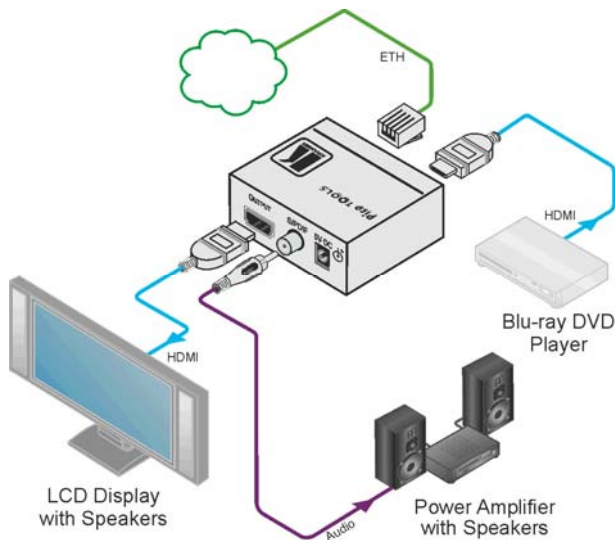

Figure 2: Connecting the PT-101H4 HDMI Repeater and Format Converter
To connect the **PT-101H4** as illustrated in the example in Figure 2:
5. Connect the 5V DC power adapter to the power socket on the **PT-101H4** and to the mains electricity (not shown in Figure 2).